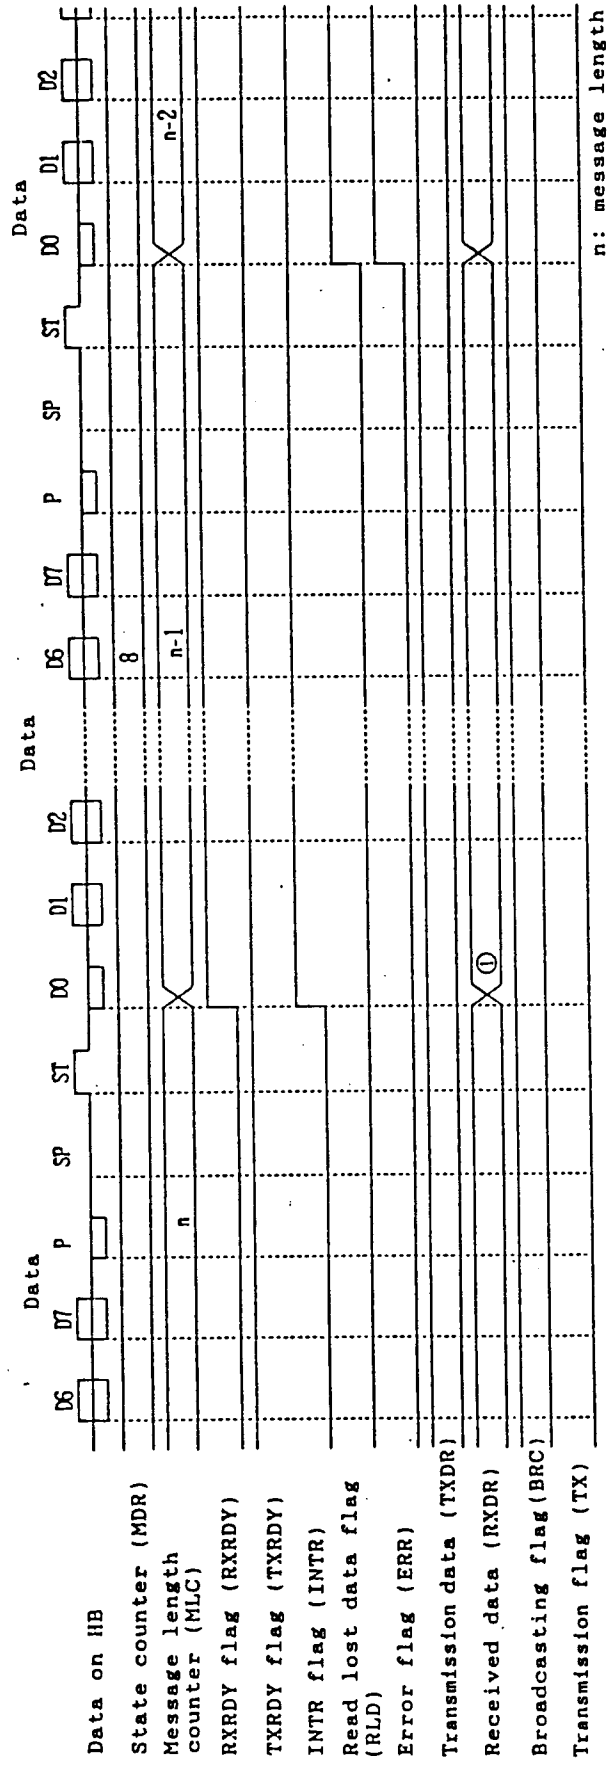

Figure 4.38 Read lost data
In Figure 4.38, read lost data (RLD) occurs because the CPU has not read the received data set in ① before the next received data is set. In this case, the contents of received data is replaced with new data and data that has been set is lost.